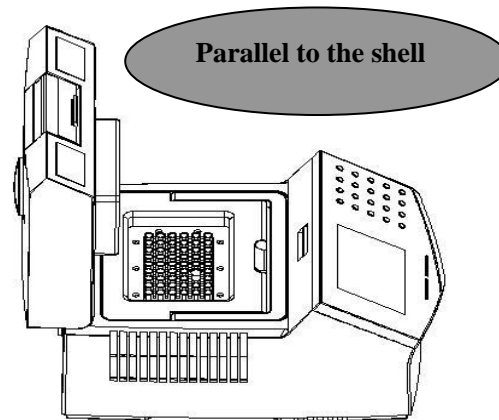

Figure 13
Step 5: When the magnetic steel sticks and the handle is parallel to the shell, the module parts and the shell will lock tight automatically. Till now the replacement of module parts is over. (See Figure 13)